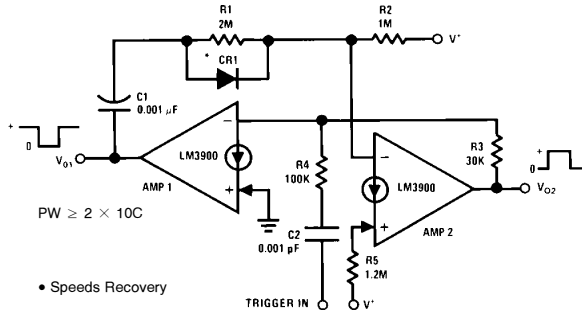

FIGURE 62. A One-shot Multivibrator
A circuit for a two-amplifier one-shot is shown in *Figure 62*. As the resistor,  $R_2$ , from  $V^+$  to the (-) input is smaller than  $R_5$  (from  $V^+$  to the (+) input), amplifier 2 will be biased to a low-voltage output in the quiescent state. As a result, no current is supplied to the (-) input of amplifier 1 (via  $R_3$ ) which causes the output of this amplifier to be in the high voltage state. Capacitor  $C_1$  therefore has essentially the full  $V^+$  supply voltage across it ( $V^+ - 2 V_{BE}$ ). Now when a differentiated trigger (due to  $C_2$ ) causes amplifier 1 to be driven ON (output voltage drops to essentially zero volts) this negative transient is coupled (via  $C_1$ ) to the (-) input of amplifier 2 which causes the output of this amplifier to be driven high (to positive saturation). This condition remains while  $C_1$  discharges via ( $R_1$ ) from approximately  $V^+$  to approximately  $V^+/2$ . This time interval is the pulse width (PW). After  $C_1$  no longer diverts sufficient current of  $R_2$  away from the (-) input of amplifier 2 (i.e.,  $C_1$  is discharged to approximately  $V^+/2$  V) the stable DC state is restored—amplifier 2 output low and amplifier 1 output high.